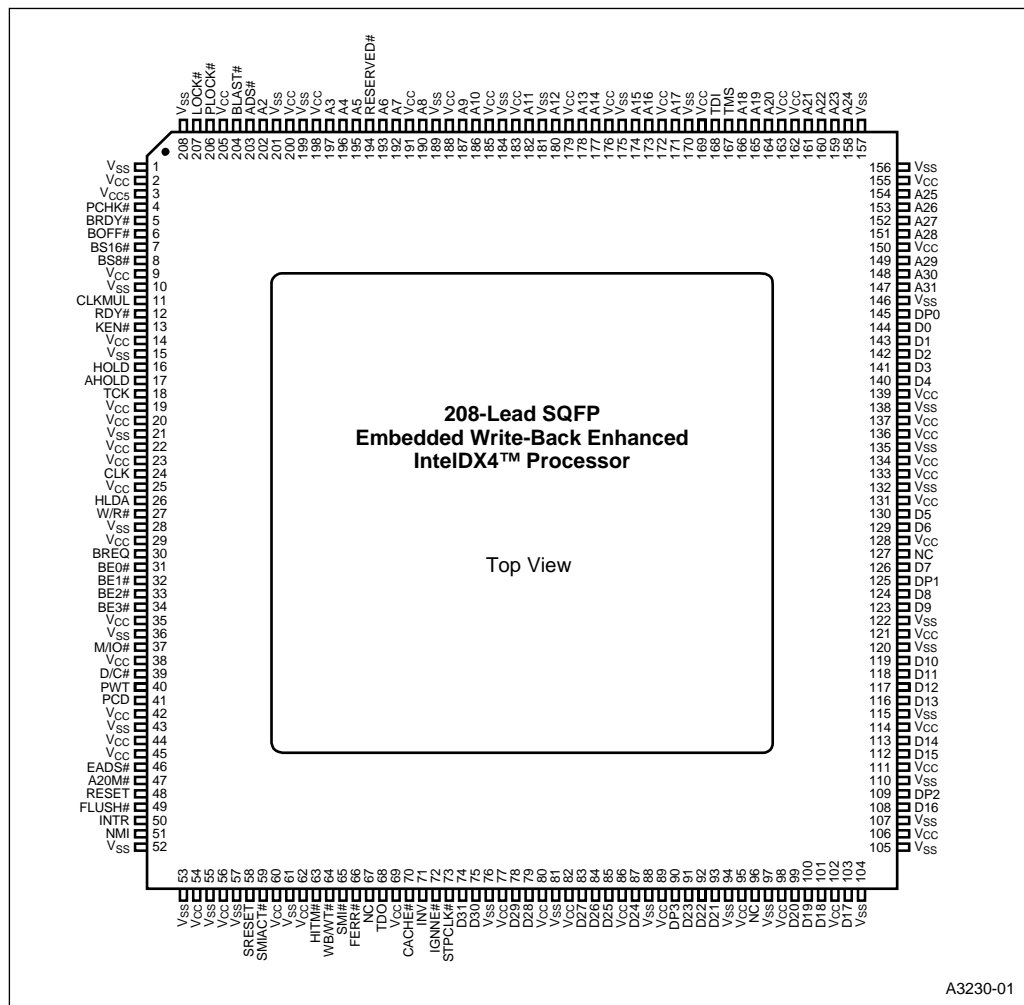

Figure 2. Package Diagram for 208-Lead SQFP Embedded Write-Back Enhanced IntelDX4™ Processor
- Figure 2, Package Diagram for 208-Lead SQFP Embedded Write-Back Enhanced IntelDX4™ Processor (pg. 4)